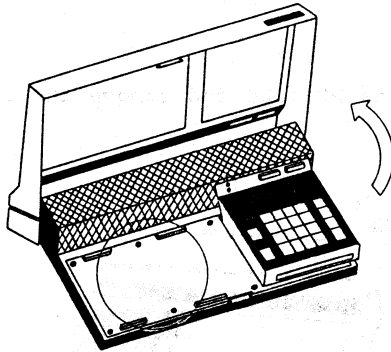

Fig. 4-3
- (3) Raise the cover, and the PG-1000 will appear as shown in Figure 4.3. If another personal module is installed in the position indicated by the circle, raise it upward and remove it.